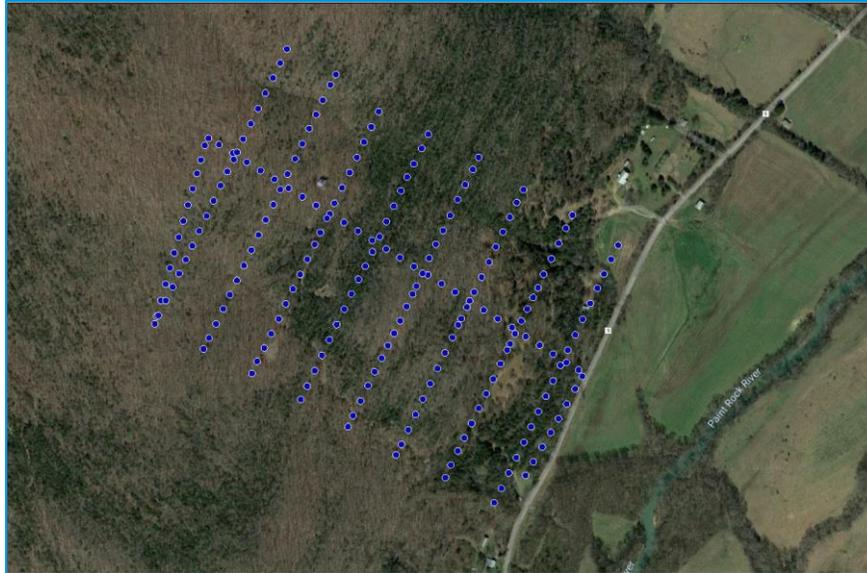

Figure 73 - Retain Photos only within Flight Lines
- i. **Retain Photos within Flight Lines** – This option retains only the photos that occur between the start and end of each flight line (flight lines were defined in the prior Create Flight Lines step). This option eliminates photos in turns. (Recommended). Selecting the option to “Retain Photos within Flight Lines.” creates a new layer in the Table of Contents (TOC) called “RetainedPhotos”. The resultant layer is shown in Figure 73. Note that only photos that are between the beginning and end of each flight line are retained.